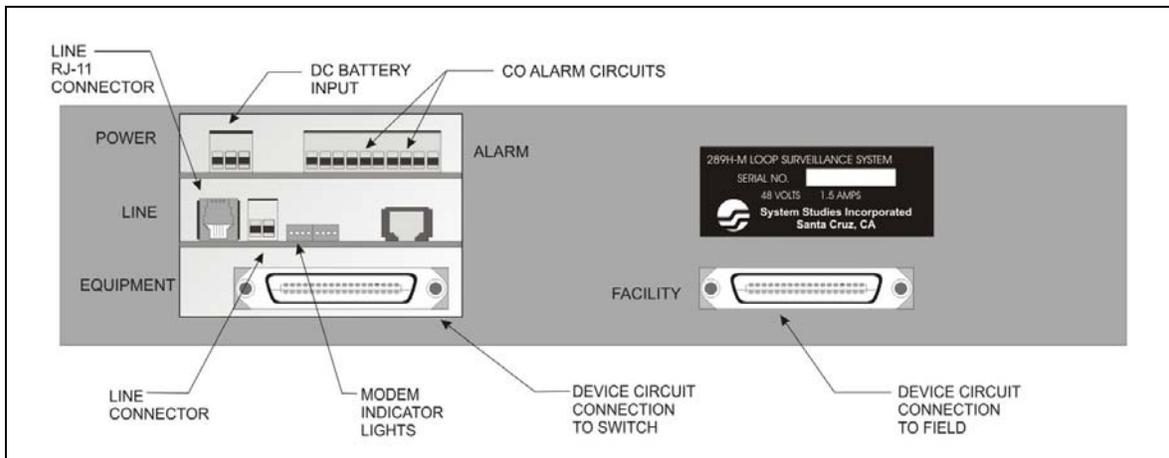

FIGURE 5-2: 289H-M LINE CONNECTIONS
3. Turn the main power switch ON. For a modem Controller Card: after verifying the line is working, plug the RJ-11 connector into the jack on the Controller Card (FIGURE 5-2).